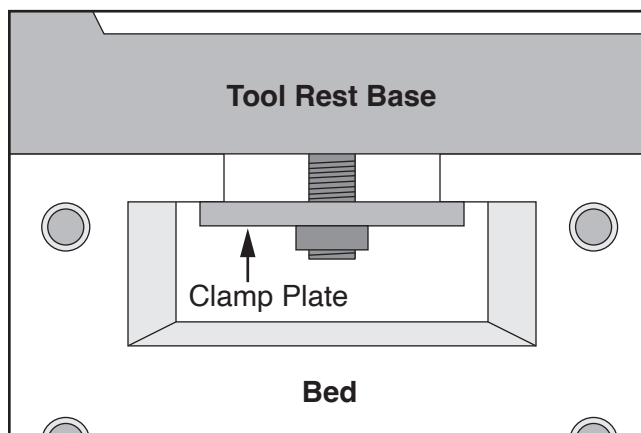

Figure 19. Clamp plate aligned with bedway.
3. Install tool rest base on bed by aligning clamp plate with bedway (see **Figure 19**). Verify tool rest base slides smoothly along bedway, then tighten lock lever to secure.